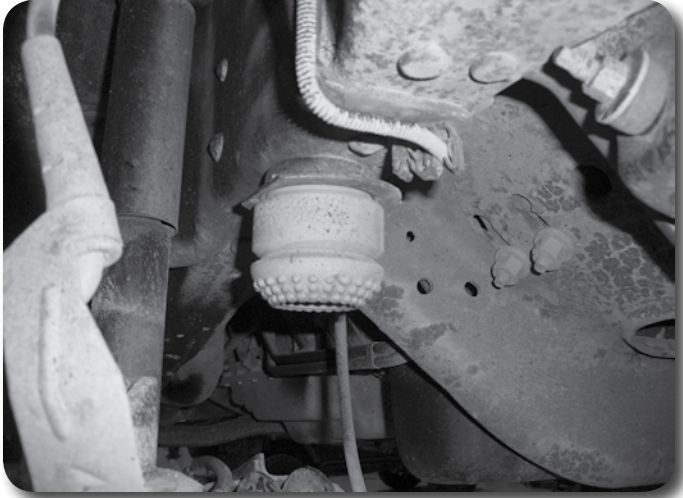

Figure 8A
15. Remove the factory bump stops from the retainer cups on the frame. **Figure 8A**